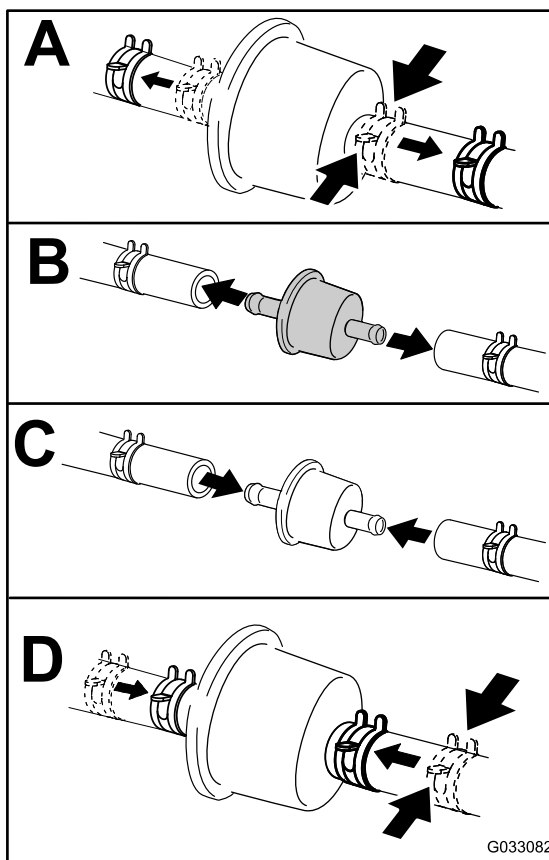

Figure 48
4. Replace the fuel filter (Figure 48).